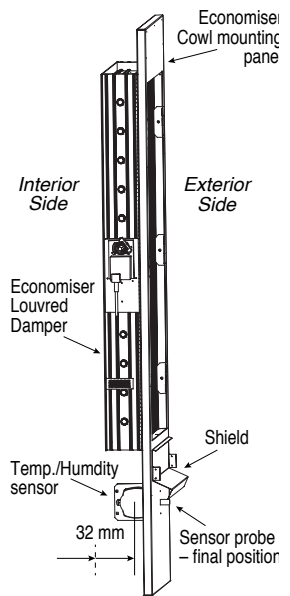

Fig.3 Fresh Air Inlet Panel - Side View
4. Factory fitted on units with Economiser option. Sensor requires adjustment from 'in-transit' to 'final site' position.; refer figure 3.
The *Carel* Temperature & Humidity sensor is located on the mounting bracket located on the inside wall of the economiser louvred panel and needs to be repositioned from its 'in-transit' position to its final position. Reposition the sensor body 32 mm to the right (refer Fig.3) using the holes provided, enabling the sensor probe to protrude into the outside air. This action should be carried out after the weather cowl is installed to avoid damage to the probe.
9. Check fresh air sensor in correct position (if applicable, refer figure 3 above).